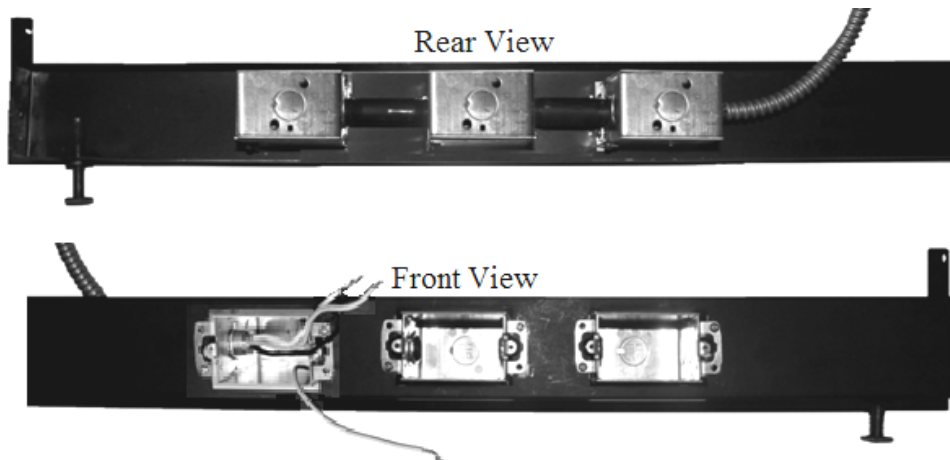

Figure 8 – Attach Conduit to Junction Box
Step 8— Attach field supplied conduit from the wall to knockout hole “#1” on the “In-Line Fuse” junction box. Using a field supplied conduit nut, tighten conduit to the “In-Line Fuse” junction box as shown in Figure 8.